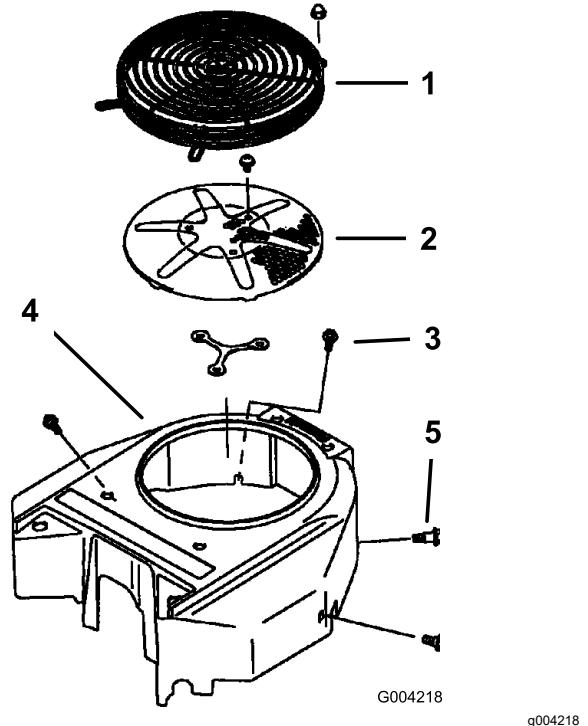

Figure 70
3. Remove the air-intake screen, the recoil starter, and the fan housing (Figure 70).
5. Install the air-intake screen, the recoil starter, and the fan housing (Figure 70).